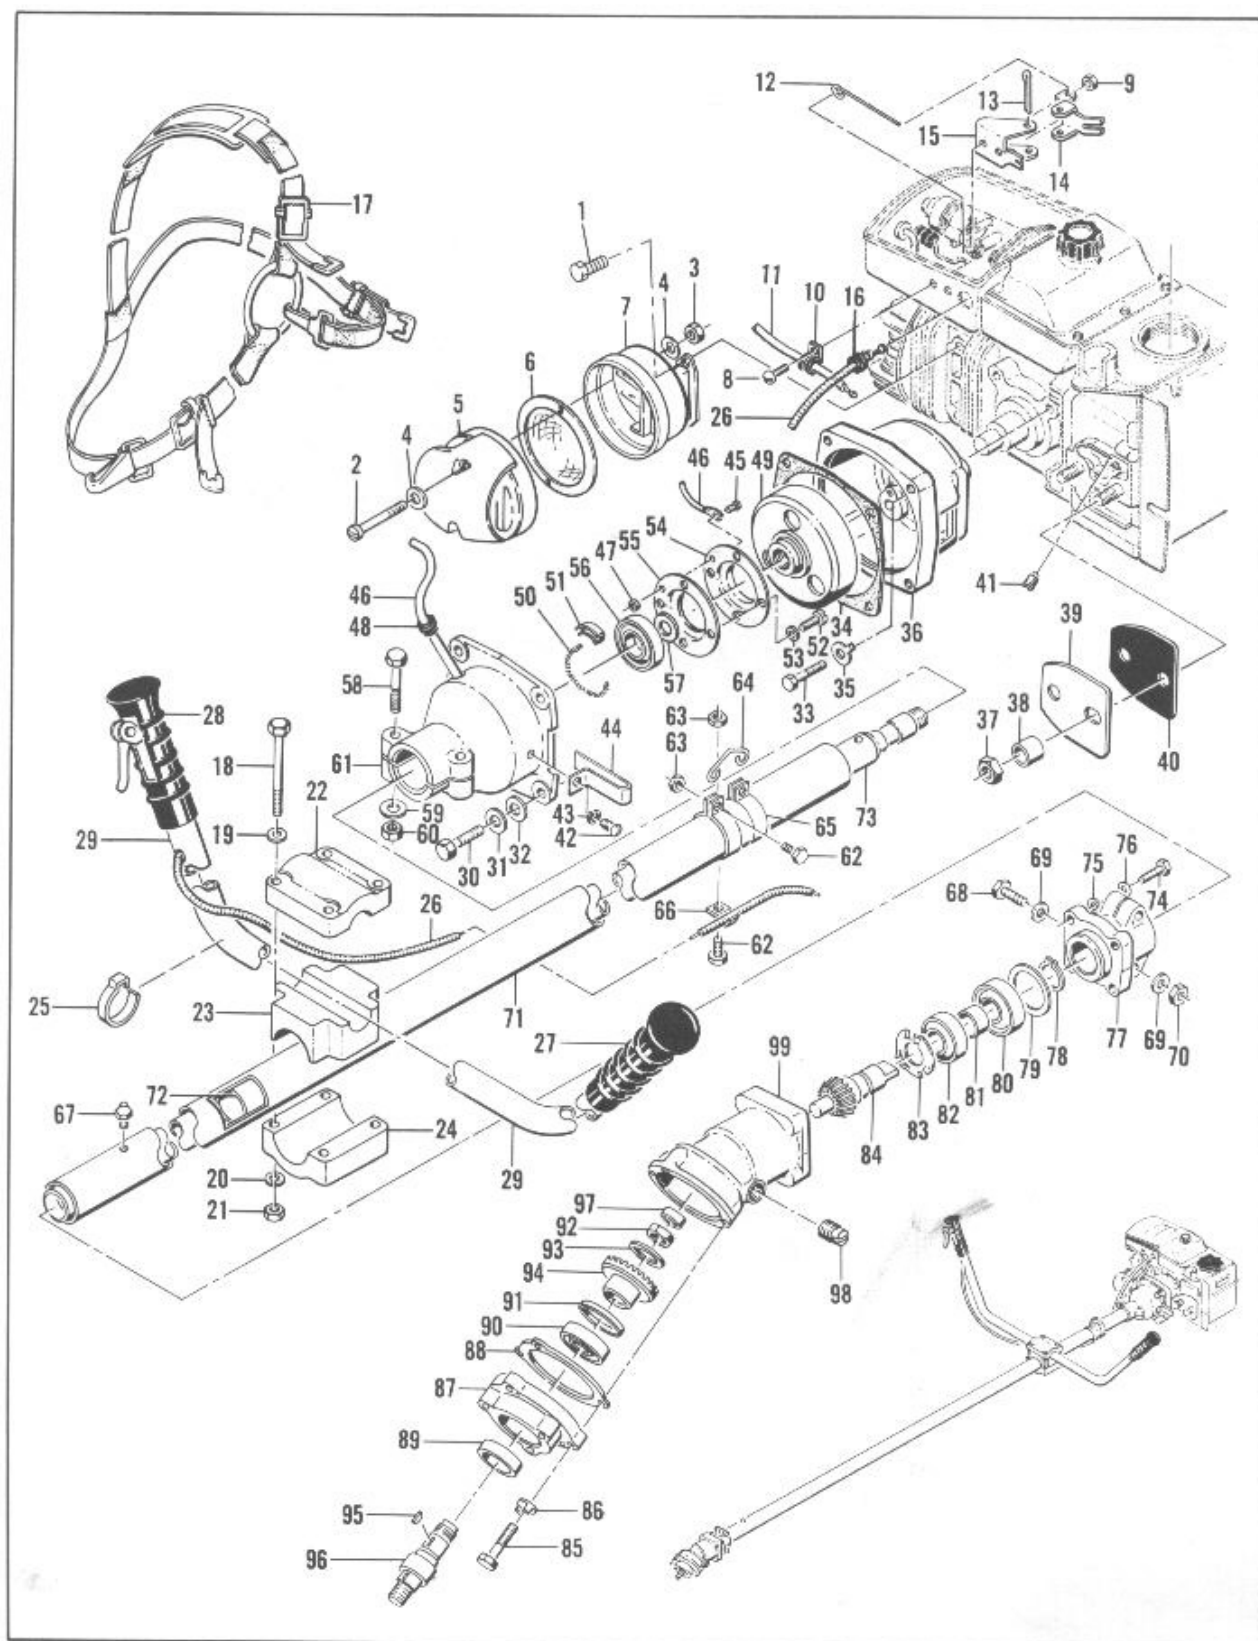

Figure 17. Exploded View 57600A Drive Unit and Accessory Kits
3. Remove the fuel vent orifice assembly from the bar mounting pad and install the Fuel Tank Vent Plug (P/N 57595). See Figure 17. Install the Cover Plate Gasket
(P/N 57437), Cover Plate (P/N 50485), and the Spacers (P/N 50484) on the bar mounting nuts and secure with two hex nuts (P/N 103729) (see Figure 17).
Wear the carrying harness in the same way as shown in Figure 16. The pad goes over the left shoulder; the stabilizing strap passes around the left side from the back and snaps onto the ring in front. The snap clamp with the roller, hooks on the harness hanger on the drive shaft housing (Figure 17).